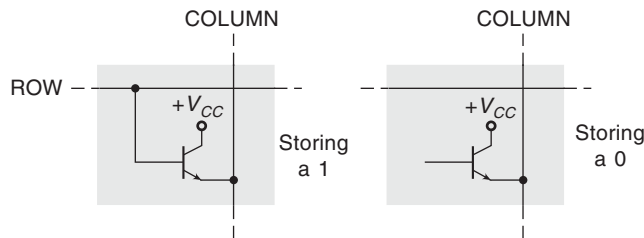

Fig. 15.6 Bipolar ROM Cells.
- (a) *Bipolar Cells:* Figure 15.6 shows bipolar ROM cells. The presence of a connection from a ROW line to the base of a transistor represents a 1 at that location because when the ROW line is taken HIGH, all transistors with a base connection to that ROW line turn ON and connect the HIGH (1) to the associated COLUMN lines. At the ROW/COLUMN junctions where there is an absence of base connections, COLUMN lines remain LOW (0) when the ROW is addressed.